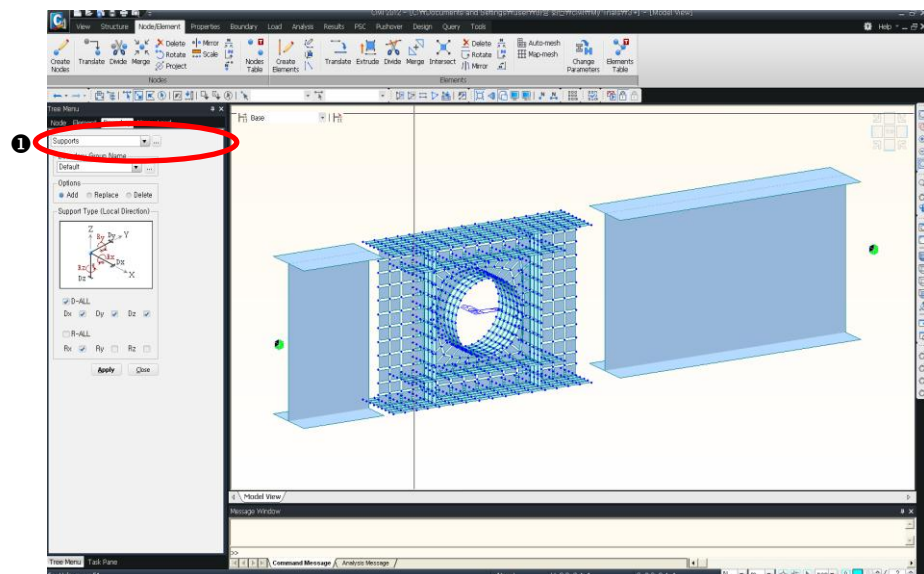

Figure 3.15 Definition of Support Conditions
1. Select **Boundary** in the tab (Fig.3.15–❶).